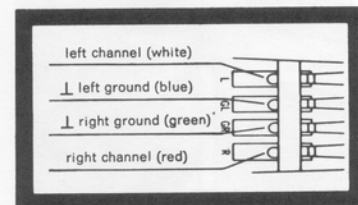

Fig. 17
4. The connections on the cartridge holder are marked and the wire leads are color-coded (Fig. 17). Connect the leads with the appropriate terminal pins on the cartridge.